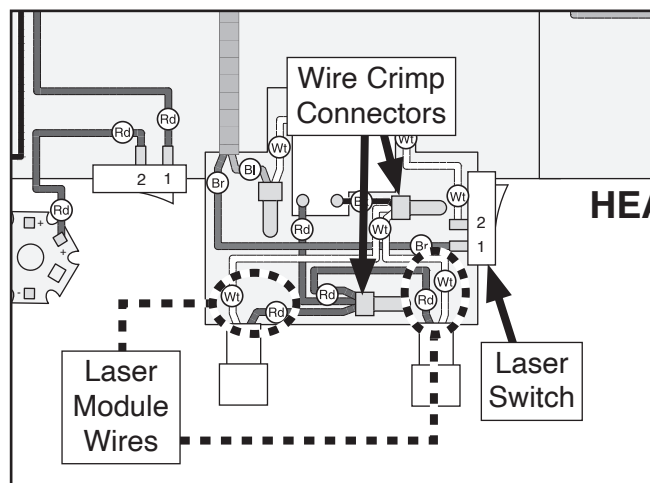

Figure 78. Laser module wiring.
4. Disconnect faulty laser module wires from wire crimp connectors (see **Figure 78**), then fully remove laser module from electrical box.